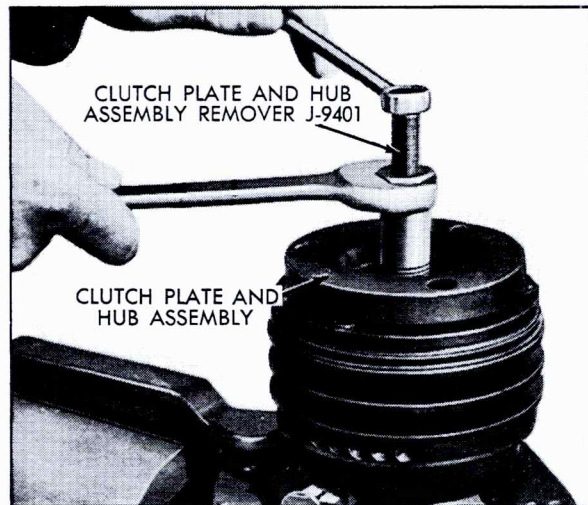

Fig. 1-38 Removing Clutch Plate and Hub Assembly
3. Thread Clutch Plate and Hub Assembly Remover, J-9401, into hub. Hold body of tool with a wrench and tighten center screw to remove clutch plate and hub assembly, Fig. 1-38.